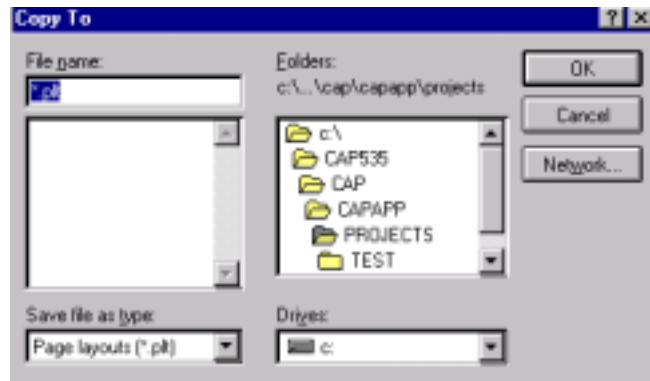

Fig. 47 The Copy To... dialog box.
- 3 Select the 'Insert From...' command in the File menu of the Page Layout, and the Insert From dialog box in Fig. 47 appears.